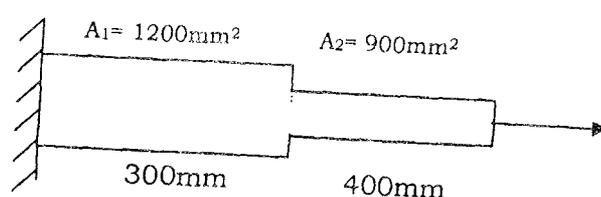

Figure 4
- (i) Higher order elements (8)
- (ii) Meshing techniques. (8)
15. (a) Derive the global stiffness matrix for a axially vibrating steel bar as shown in figure 4. (16)